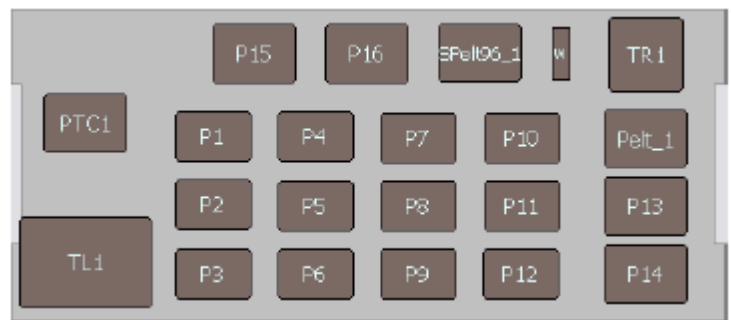

Figure 59 Empty deck positions.
- Figure 59—Location names of empty deck positions
^[1] See Figure 59 for empty deck positions.^[2] The P250 Barrier Pipette Tips are loaded where the user interface shows P200.